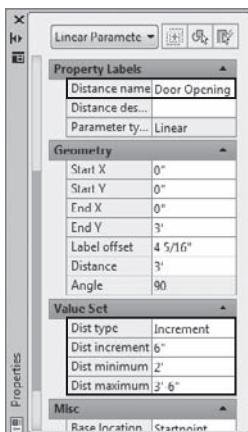

FIGURE 9.47 Change the parameters in the Properties dialog box.
4. Moving down, line by line, set Dist Increment to 6" (153), Dist Minimum to 2" (609), and Dist Maximum to 3'-6" (1068), as shown in Figure 9.47.